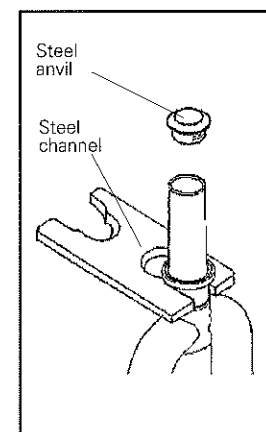

Fig. 43
1. Clamp or bolt the **steel channel** (Fig. 43) to a bench with the flanges facing up and the small opening overhanging the edge of the table.